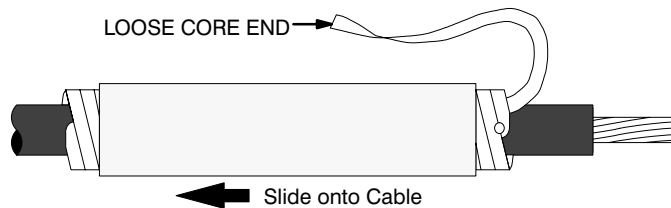

FIGURE 4
5. Slide termination onto cable, with loose core end trailing (toward cable end). (*FIGURE 4*)